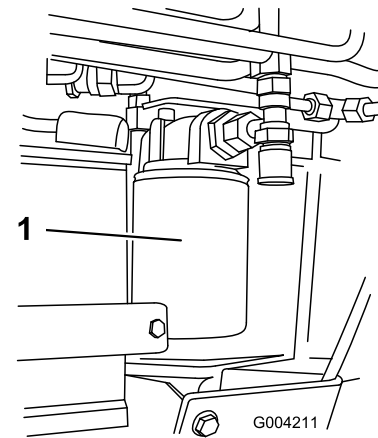

Figure 59
4. Place a drain pan under the filter (Figure 59).
5. Remove the old filter (Figure 59) and wipe the surface of the filter adapter gasket clean.
7. Install the replacement hydraulic filter onto the filter adapter (Figure 59). Tighten it clockwise until the rubber gasket contacts the filter adapter, then tighten the filter an additional 3/4 turn.